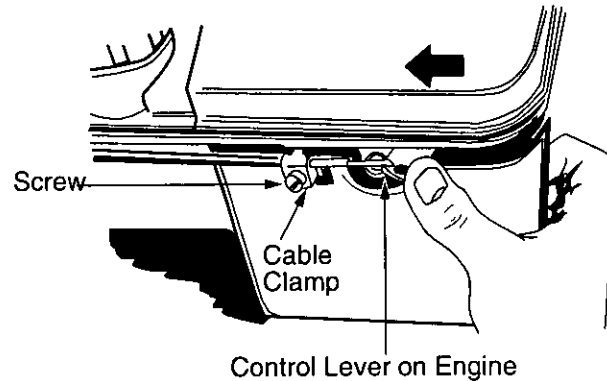

FIGURE 14
- Remove the screw shown in Figure 14. Remove the cable clamp from the cable.